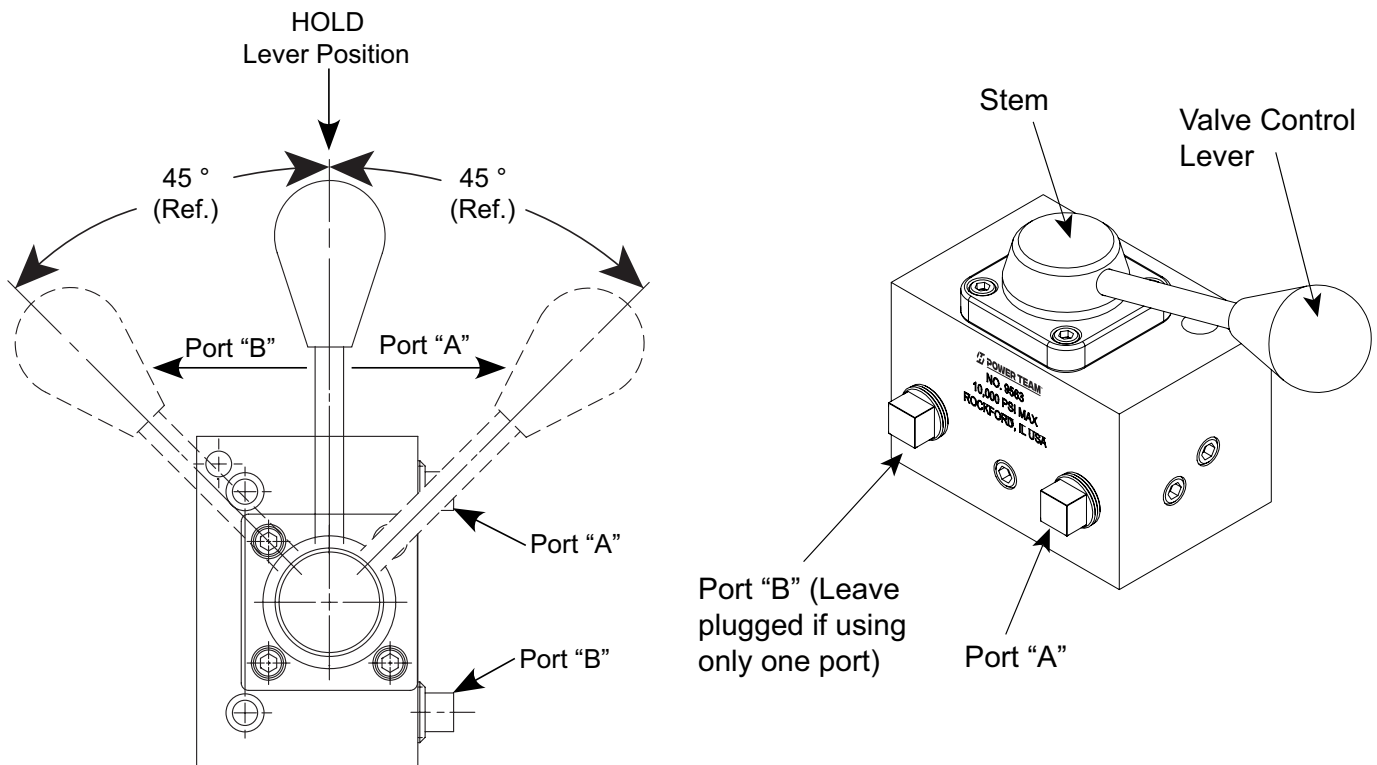

Fig. 11. 3 Position, 4 Way Manual Valve
- Position the valve control lever in the HOLD position (Refer to figure 11).